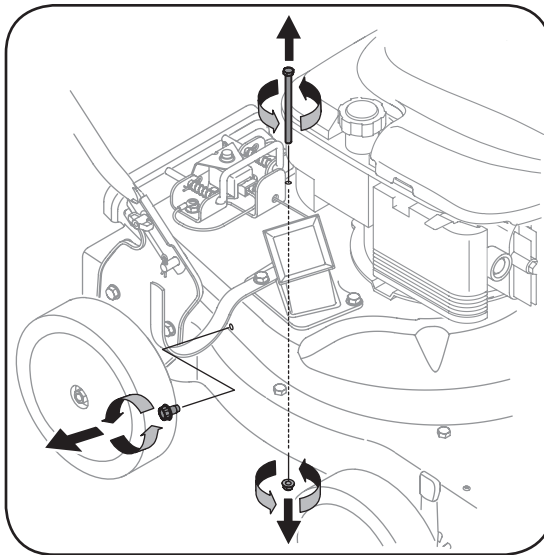

Figure 5-1
4. Remove self tapping screw on right side of unit that attaches to the flail screen. It may be necessary to remove the hose bracket hanger to get access to the screw. See Figure 5-1.
5. Remove hex screw on top of rear housing near mounting bracket and the flange lock nut that secures flail screen. See Figure 5-1.